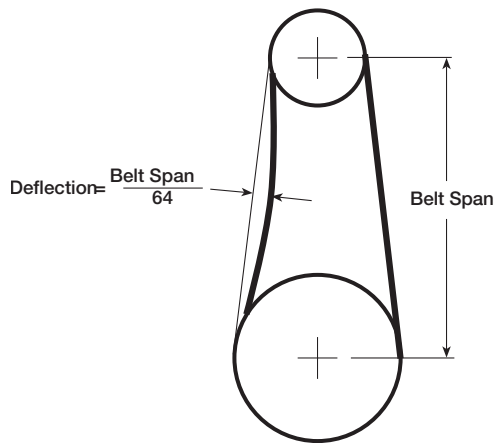

Figure 6
9. Belt tension should be adjusted to allow 1/64 in. (0.397 mm) of deflection per inch of belt span. For example, a 15 in. (381 mm) belt span should have 15/64 in. (5.95 mm) (or about 1/4 in. (6 mm)) of deflection with moderate thumb pressure at mid-point between pulleys, see Figure 6.
Belts too tight or too loose	Refer to Figure 6 and adjust tension.